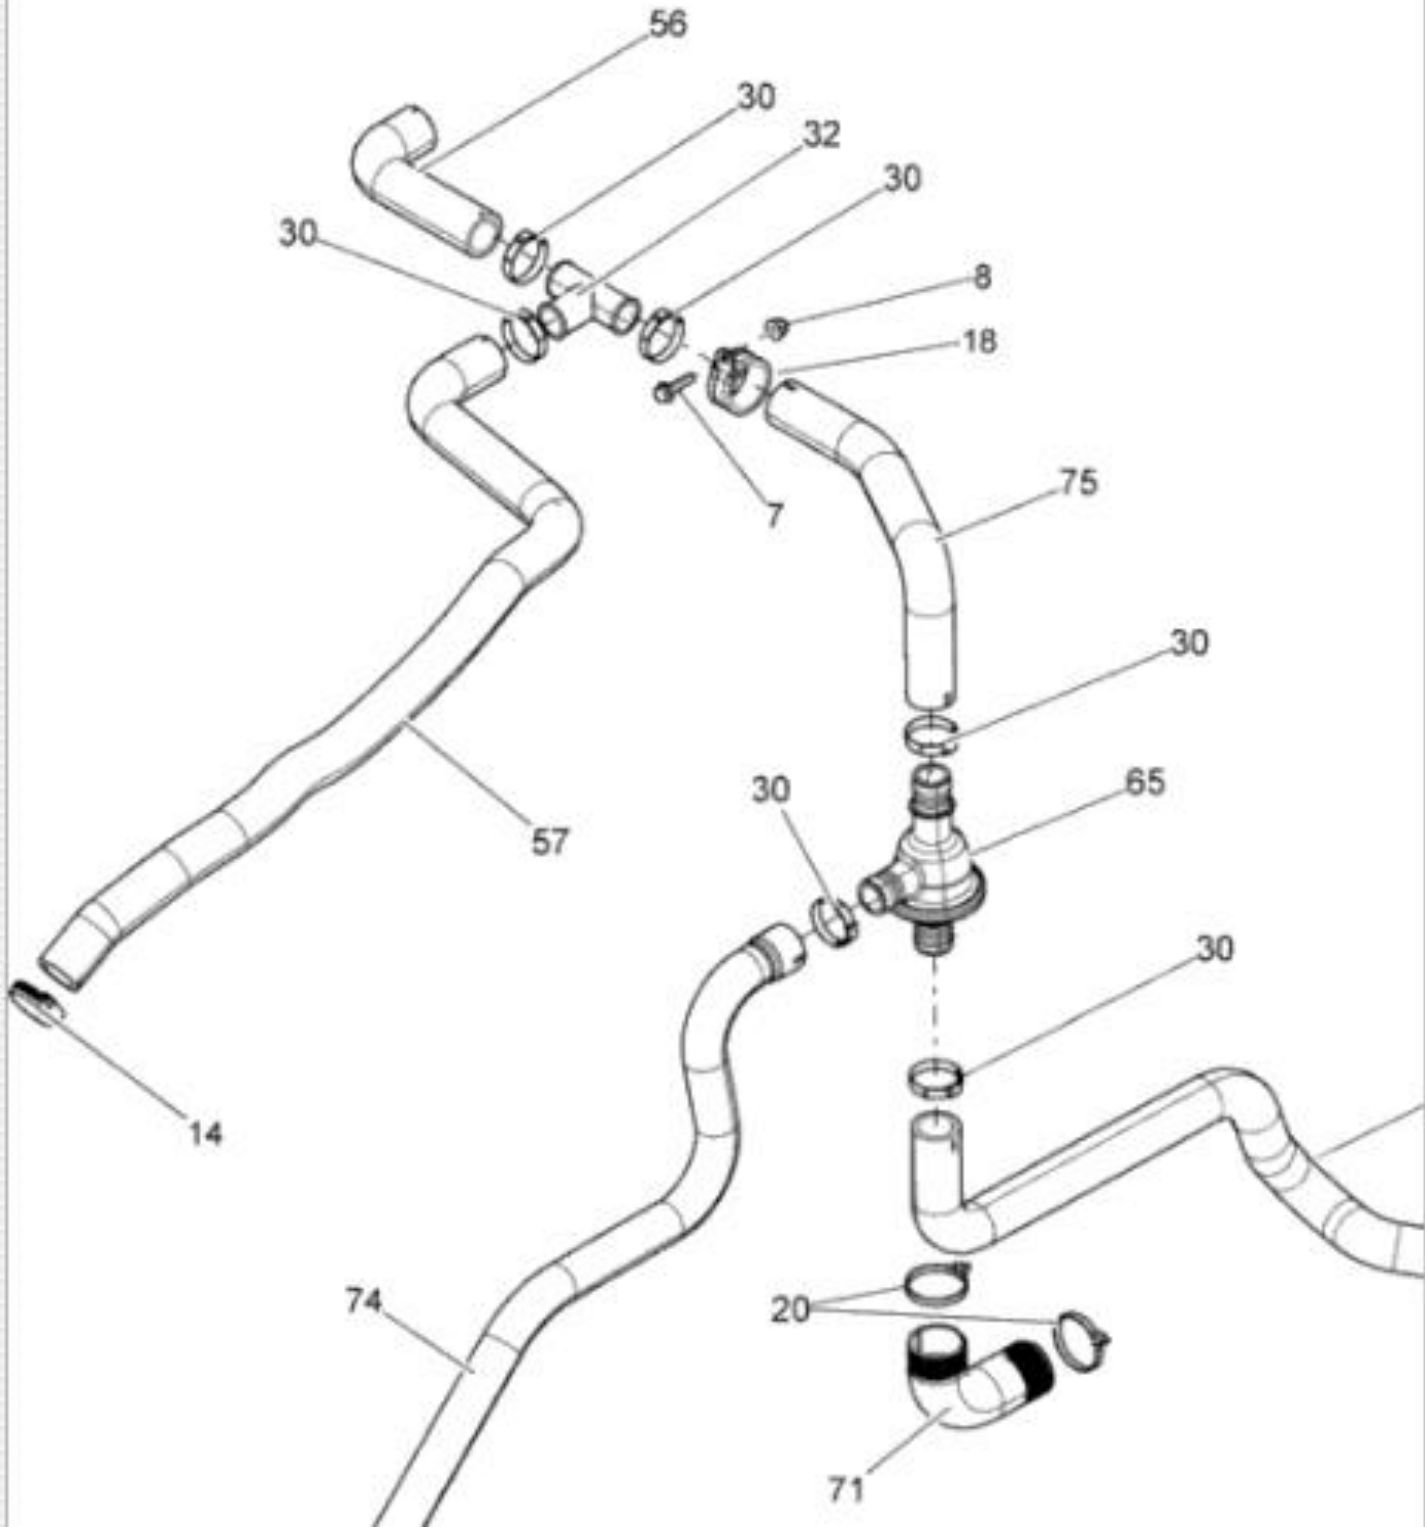
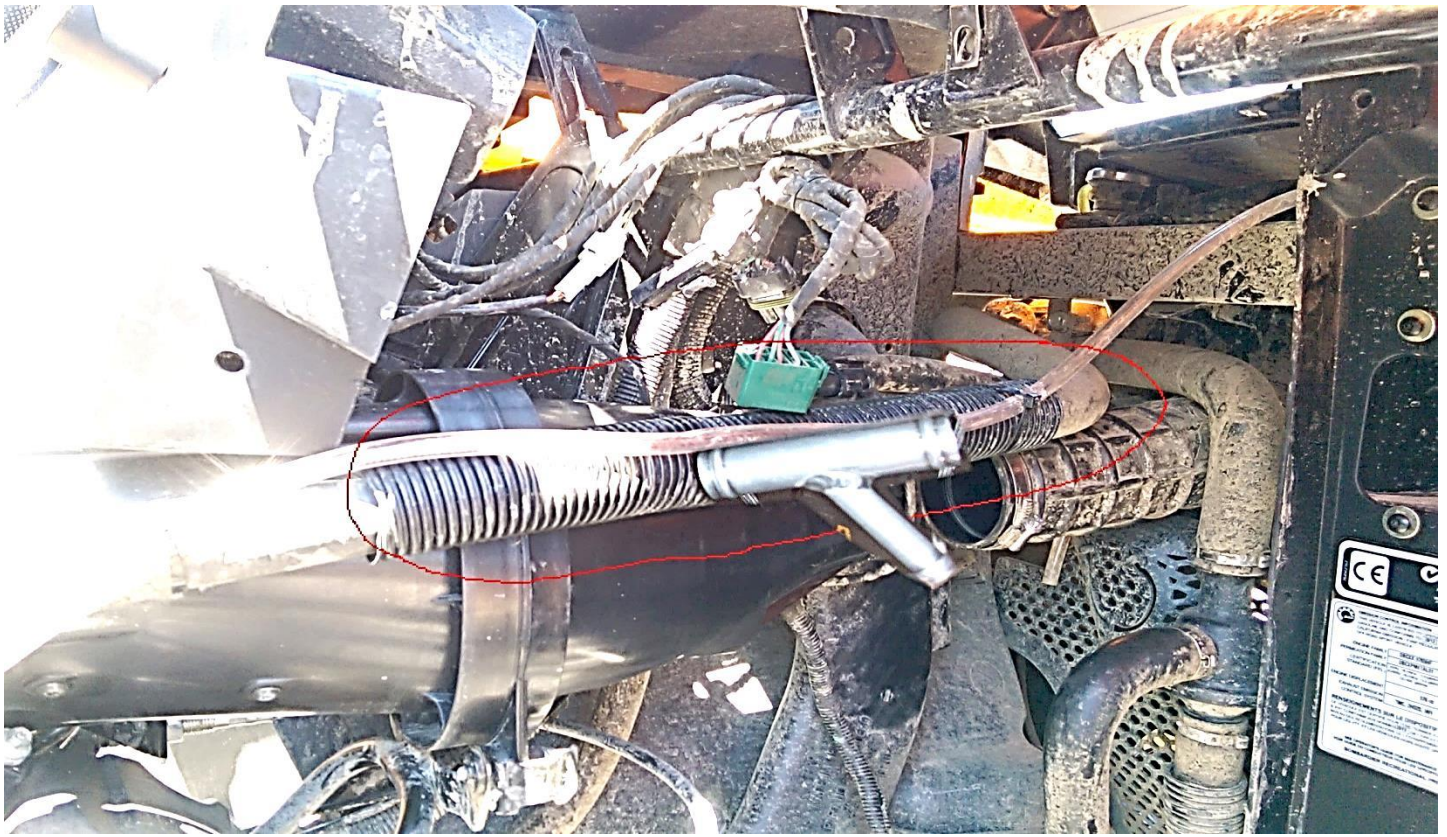

Figure 14a
Figure 14b
Remove engine covers, Locate the upper radiator hose as shown in Figure 14a (item 57) and 14b. Cut radiator hose as shown in Figure 14b removing approximately a 1" to 1.5" section of the hose. Insert the Y connector exactly in the radiator hose as shown in Figures 14b and 13c. Before cutting any hose,